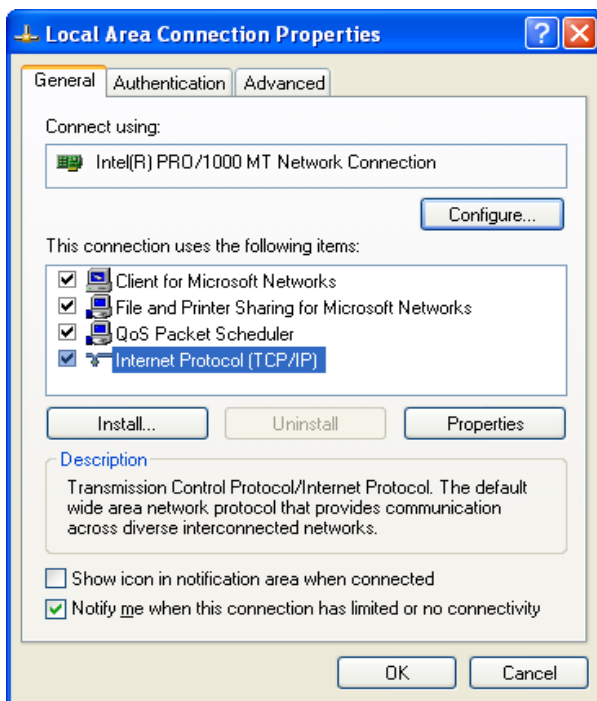

Figure 2-1: Local Area Connection Properties Dialog
4. Right-click the Local Area Connections icon and click Properties to open the Local Area Connection Properties dialog (Figure 2-1).